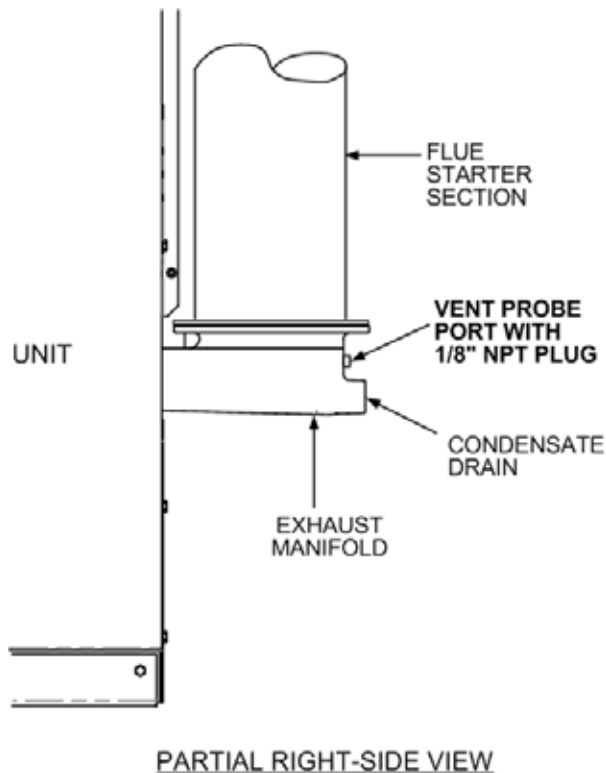

Figure 4-2 Analyzer Probe Hole Location
The unit contains a 1/8" NPT port at the rear of the exhaust manifold. This port is located above the condensate drain connection as shown in Figure 4-2. Prepare the port for the combustion analyzer probe as follows:
1. Refer to Figure 4-2 and remove the 1/8" NPT plug from the rear of the exhaust manifold.